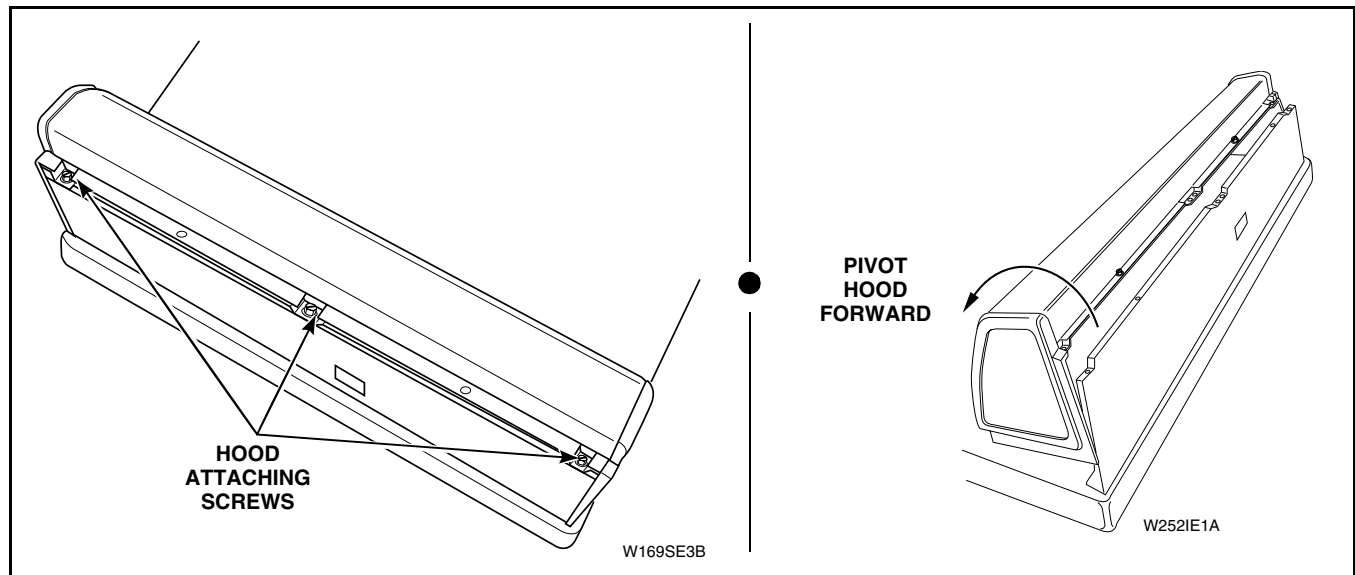

Figure 5
- a. Remove three screws holding rear of hood assembly to control hood rear panel. Refer to *Figure 5*.
- b. Pivot hood assembly forward on cabinet top. Refer to *Figure 5*.
- Remove three screws holding rear of hood assembly to control hood rear panel. Refer to *Figure 5*.
- Pivot hood assembly forward on cabinet top. Refer to *Figure 5*.